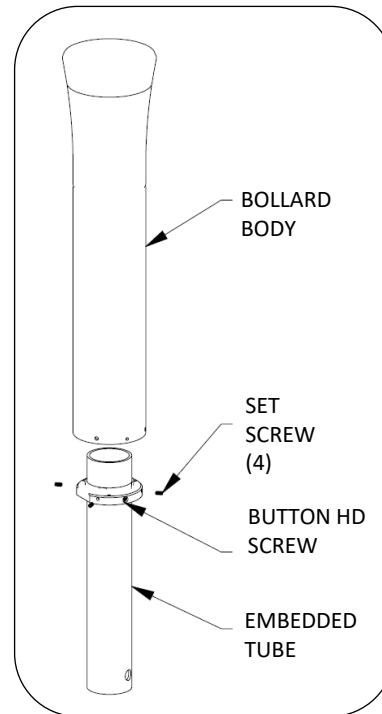

FIG. 1 – REMOVE BASE PLATE
1. Remove embedded tube from unit body by removing the four set screws at the bottom of the unit, see Fig. 1.
5. Adjust button head screw at the base of the unit to reduce any movement in unit body, see Fig. 1.